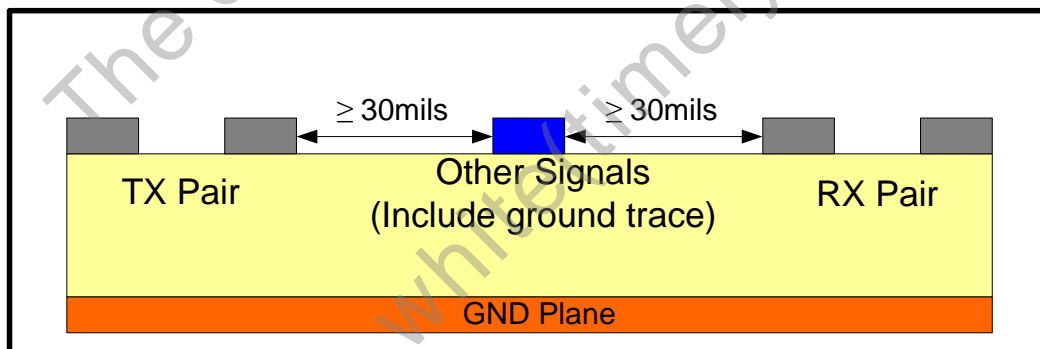

Figure 8. Trace Spacing Recommendation for a 4-Layer PCB
- As possible to space to all other signals be at least 30-mil in order to avoid harmful coupling issues in a 4-layer PCB (see Figure 8)